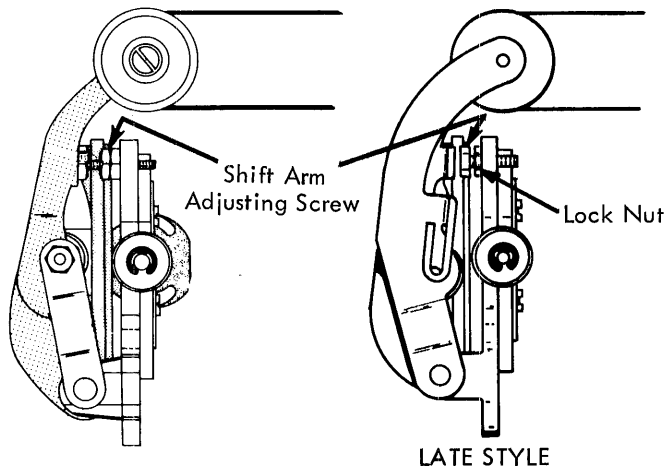

FIGURE 132. Shift Motion Adjustment
14. Shift Motion - The shift arm adjusting screw (Fig. 132) should be adjusted in or out to obtain 180° rotation of the typehead during a shift operation.